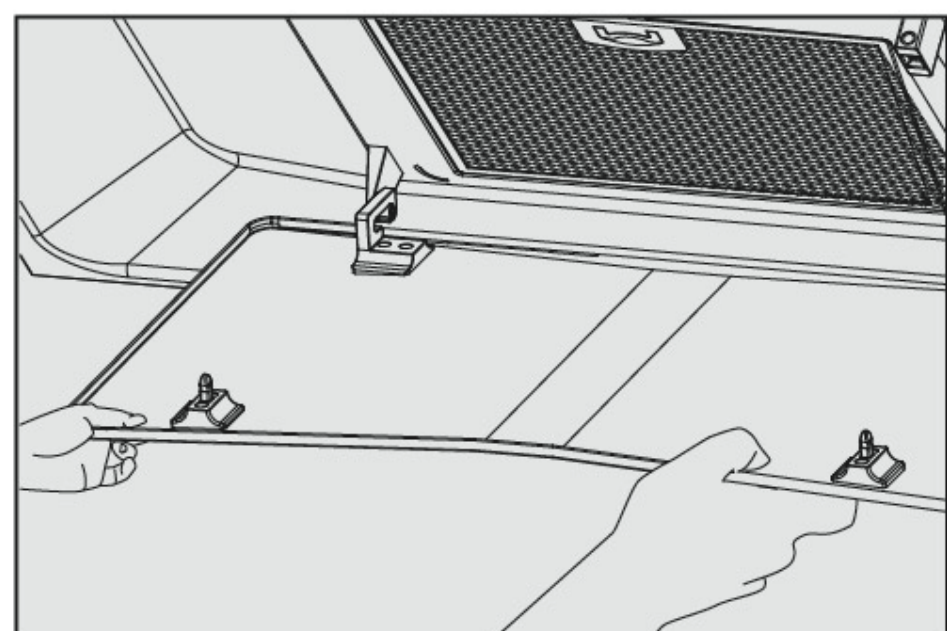

Fig.8
10. Installation of ring suction plate (see Figure 8):